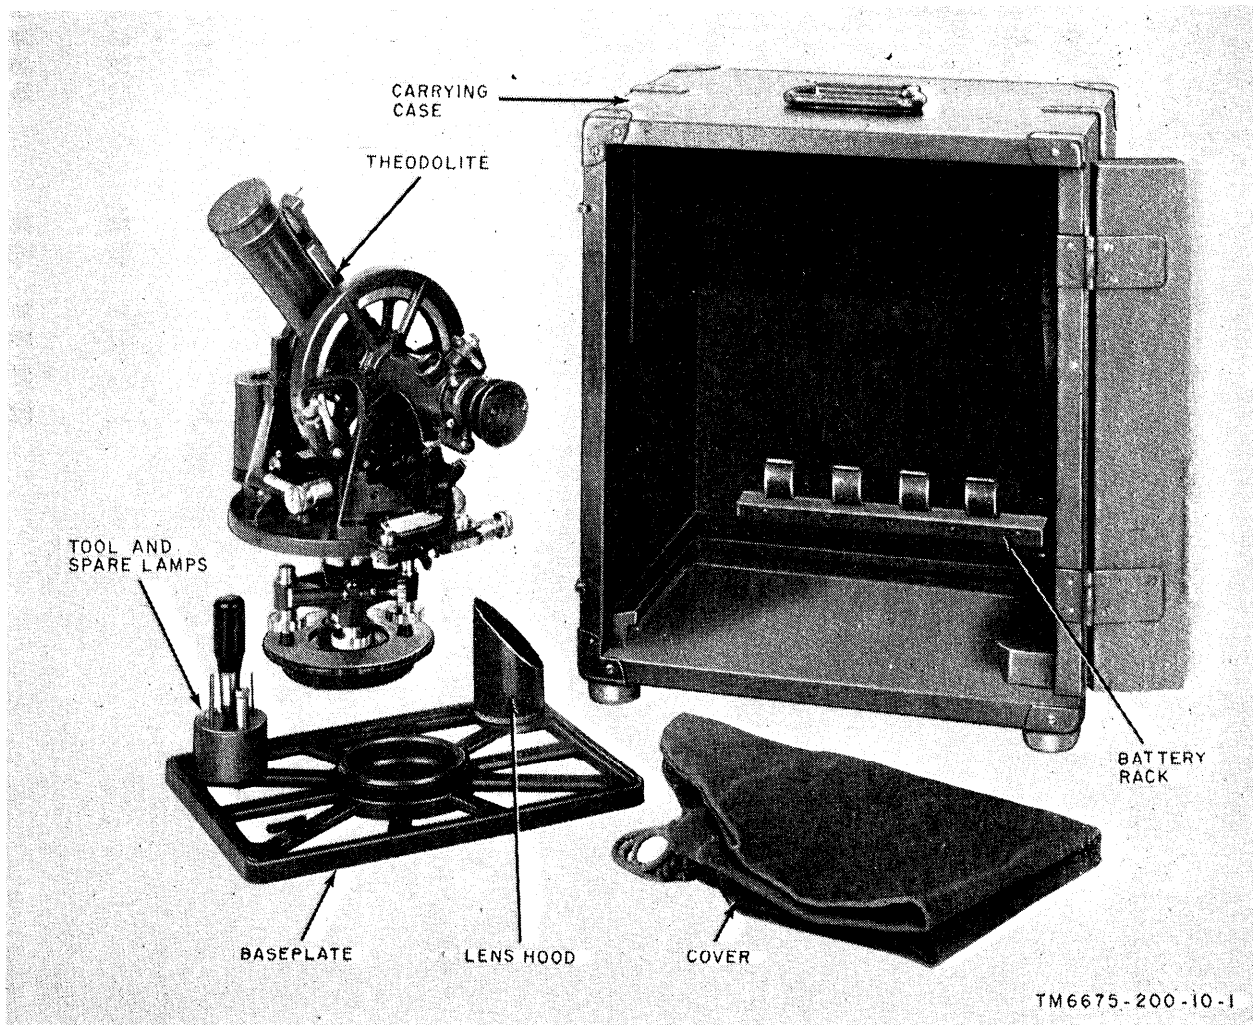

Figure 1. Double Center Theodolite ML-474/GM
1. Scope (fig. 1)
The theodolite set (fig. 1) provides a weather station operator with azimuth and elevation measurements of an object in space. It is used primarily to follow and measure the movement of pilot balloons.
The theodolite set (fig. 1) consists principally of the theodolite, base plate, and carrying case.